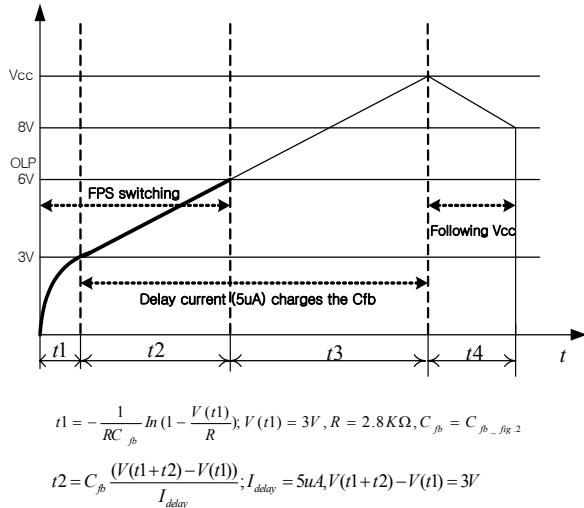

Figure 6. Over load protection
4.1 Over Load Protection (OLP) : Overload is defined as the load current exceeding a pre-set level due to an unexpected event. In this situation, the protection circuit should be activated in order to protect the SMPS. However, even when the SMPS is in the normal operation, the over load protection circuit can be activated during the load transition. In order to avoid this undesired operation, the over load protection circuit is designed to be activated after a specified time to determine whether it is a transient situation or an overload situation. In conjunction with the Ipk current limit pin (if used) the current mode feedback path would limit the current in the Sense FET when the maximum PWM duty cycle is attained. If the output consumes more than this maximum power, the output voltage (Vo) decreases below the set voltage. This reduces the current through the opto-coupler LED, which also reduces the opto-coupler transistor current, thus increasing the feedback voltage (Vfb). If Vfb exceeds 3V, the feedback input diode is blocked and the 5uA Idelay current source starts to charge Cfb slowly up to Vcc. In this condition, Vfb continues increasing until it reaches 6V, when the switching operation is terminated as shown in figure 6. The delay time for shutdown is the time required to charge